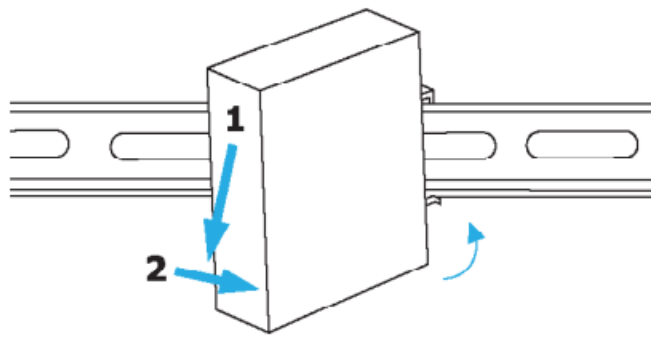

Figure 2
2. Mount the USB 2.0 Galvanic Isolator by inserting the Mounting Plate onto the DIN Rail at an angle, starting from the top then push against the DIN Rail. (Figure 2)